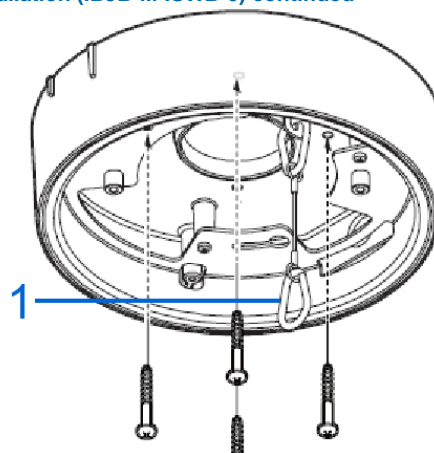

Figure 6
- Attach the safety lanyard to the 'hook' on the mount cover (1) (Figure 6) and the 'hook' on the camera base.